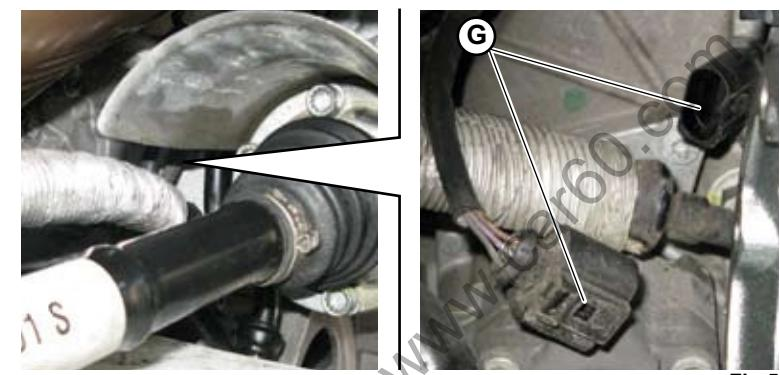

Fig.5
7. Connect the speed sensor cable connector (G-Fig.5).